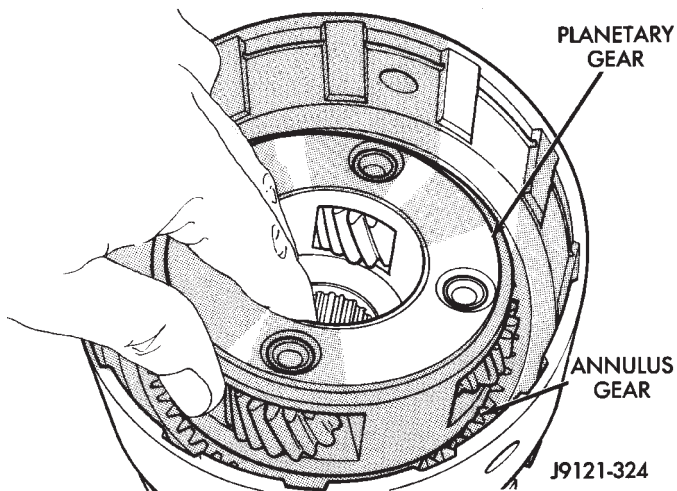

Fig. 217 Planetary Gear Installation
(11) Install planetary gear in annulus gear (Fig. 217). **Be sure planetary pinions are fully seated in annulus gear before proceeding.**